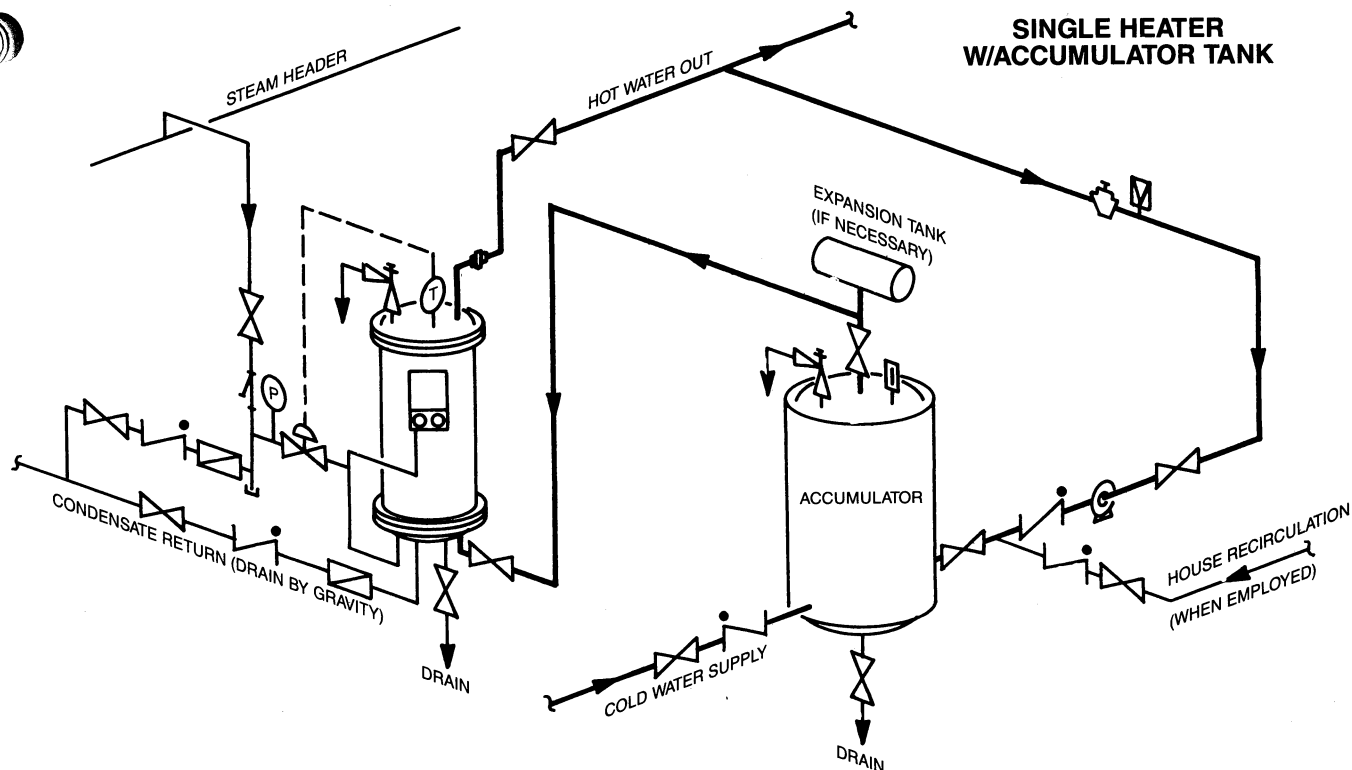

Figure HE-107-4 -- Piping Connections for a Single Heater used with an Accumulator
- Single Heater used with an Accumulator -- Figure HE-107-4